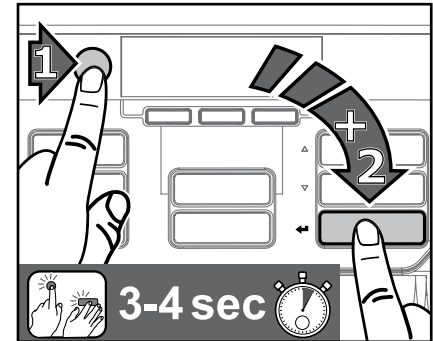

Fig. 24
1. Press first the STOP button and then the enter button  and hold them pressed simultaneously for 3-4 seconds to enter the cleaning mode. (Fig. 24)